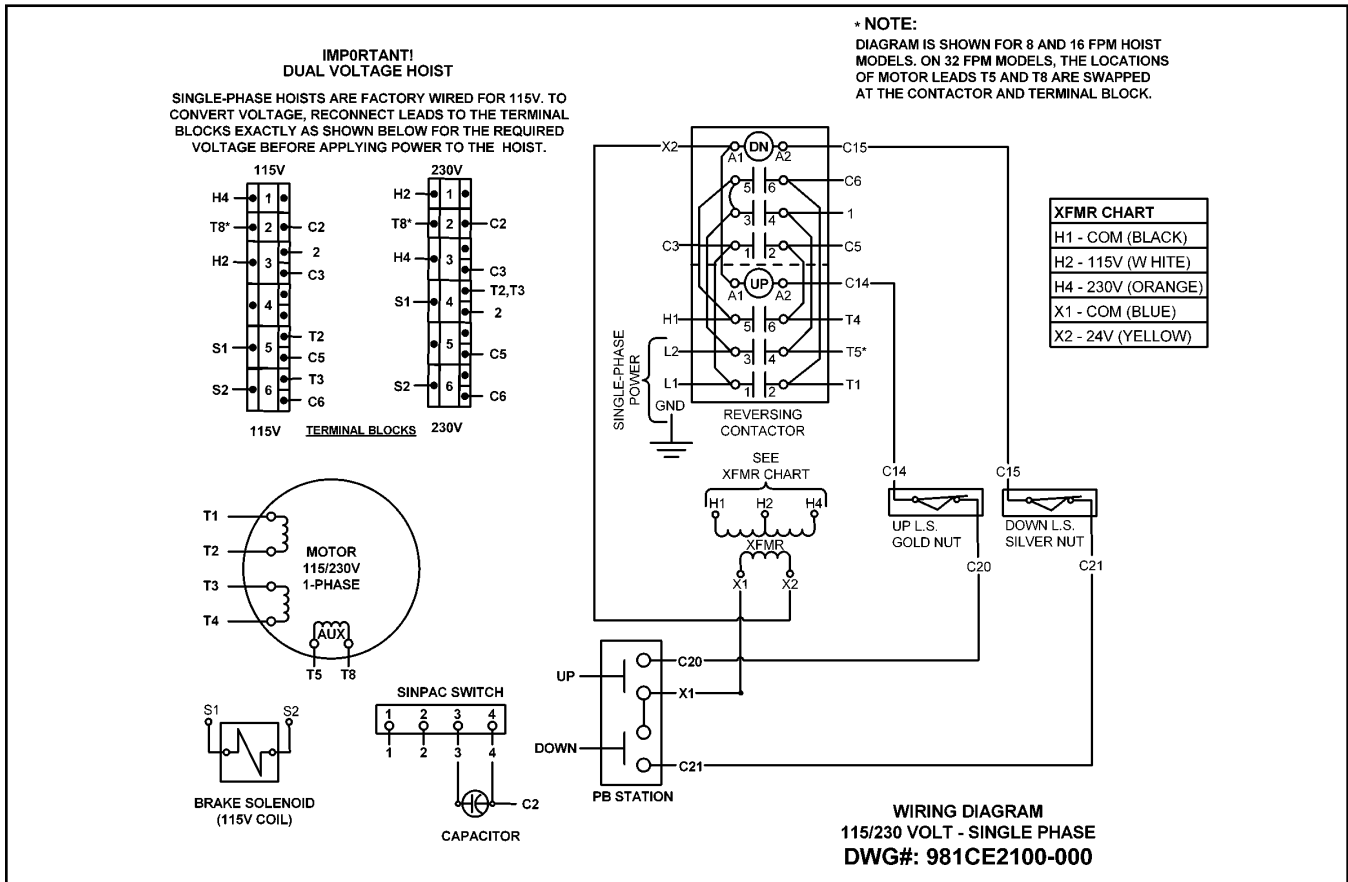

Figure 9A — Wiring Diagram for 115/230V - 1 Phase Models
6. Refer to Figures 18 and 19 for repairs on the pushbutton station. Also refer to the wiring diagram inside the electrical cover or Figures 9A, 9B, 9C and 9D for wiring instructions.
5. Install new or repaired motor according to the wiring diagram located inside the electrical cover or Figures 9A, 9B, 9C and 9D.